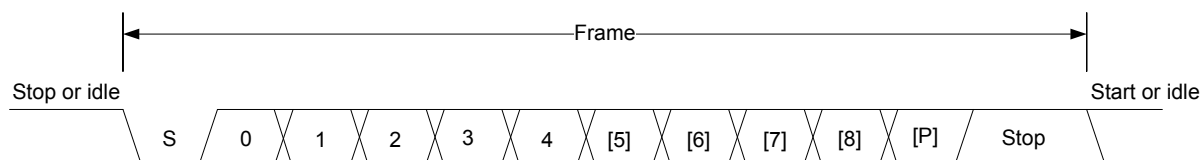

Figure 21.2. USART Asynchronous Frame Format
The frame format used in asynchronous mode consists of a set of data bits in addition to bits for synchronization and optionally a parity bit for error checking. A frame starts with one start-bit (S), where the line is driven low for one bit-period. This signals the start of a frame, and is used for synchronization. Following the start bit are 4 to 16 data bits and an optional parity bit. Finally, a number of stop-bits, where the line is driven high, end the frame. An example frame is shown in Figure 21.2 USART Asynchronous Frame Format on page 555.